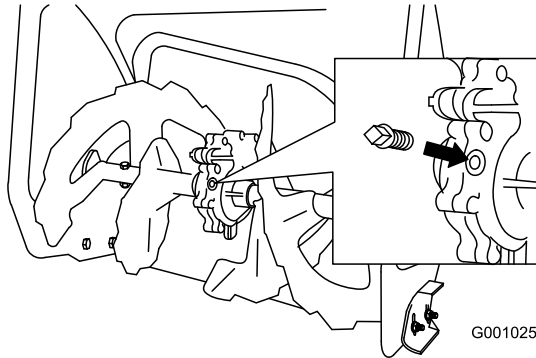

Figure 49
2. Clean the area around the pipe plug (Figure 49).